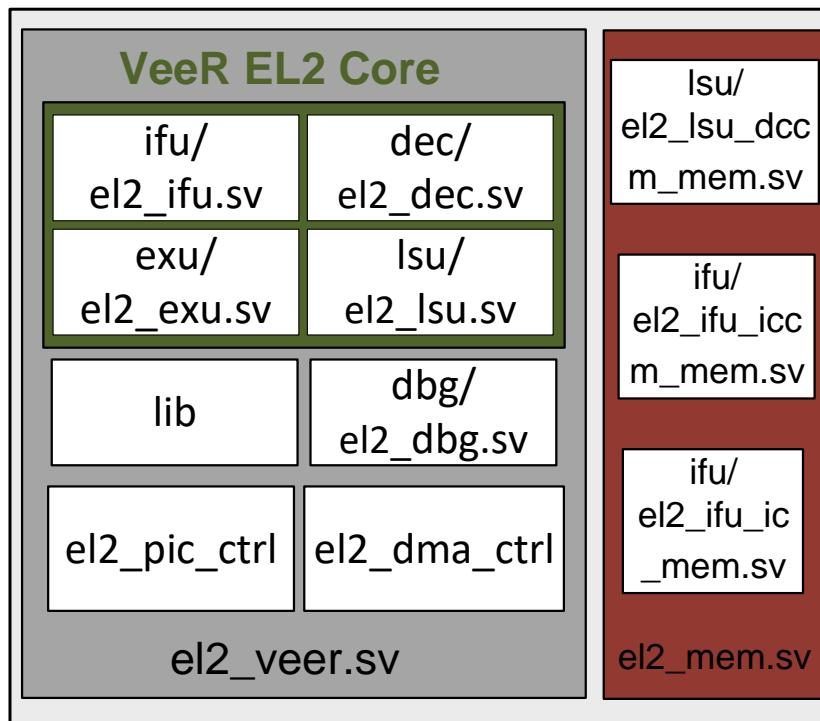

Figure 15. VeeR EL2 Core Complex
Figure 15 shows the file structure of the **VeeR EL2 Core Complex** (Figure 4). The core is organized into three main blocks: a VeeR wrapper (highlighted in grey) that includes the VeeR EL2 Core (highlighted in green) and some other elements (such as the Interrupt Controller or the Debug Unit), and the Data/Instruction memories and Instruction Cache (highlighted in red).
The top file for the VeeR EL2 Core Complex is in the file: `veer_el2_wrapper.sv`, the top module is called `veer_el2_wrapper`, and it instantiates two modules that correspond to the two blocks highlighted in grey and red in Figure 15:
The VeeR EL2 Core (highlighted in green in Figure 15) consists of the following four units:
- **veer_wrapper_dmi** (available inside *VeeR_EL2CoreComplex/veer_el2_wrapper.v*): instantiation of VeeR EL2 Core Complex, described in the previous section (Figure 15).